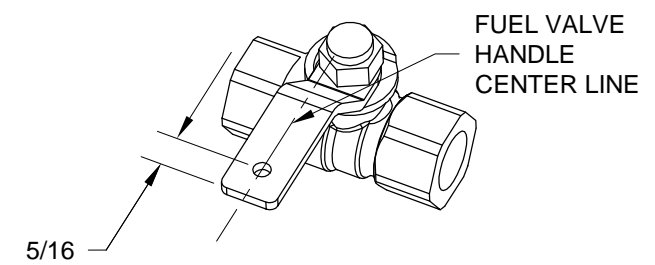

FIGURE 2: DRILLING THE FUEL VALVE 4161089 HANDLE
Step 3: Drill #30 the FUEL VALVE 4161089 handle per the dimensions given in Figure 2.